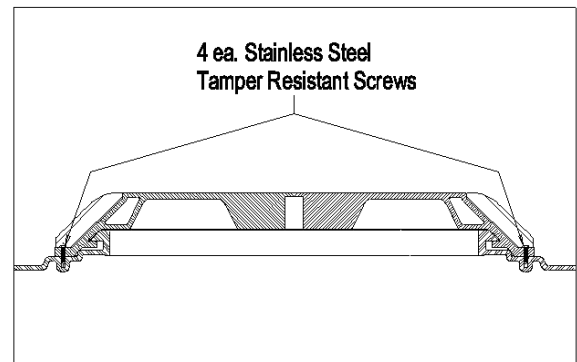

Figure 8.
3. Install four stainless steel screws (not supplied) at 90° intervals as shown in [Figure 8] [C] & [D].